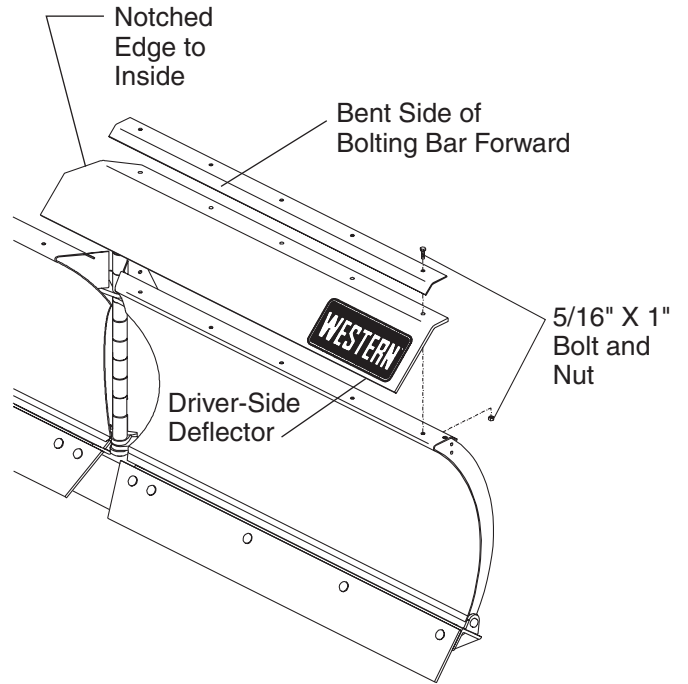

Figure 9
- Insert a 5/16" x 1" bolt into each hole and attach a nut to each bolt. (See Figure 9.)
- Align the holes in the bolting bar, rubber deflector, and the top curl of the blade. The notched edge of the rubber deflector goes towards the inside. The rubber deflector with the WESTERN® logo goes on the driver side. The bent side of the bolting bar goes towards the front. (See Figure 9.)